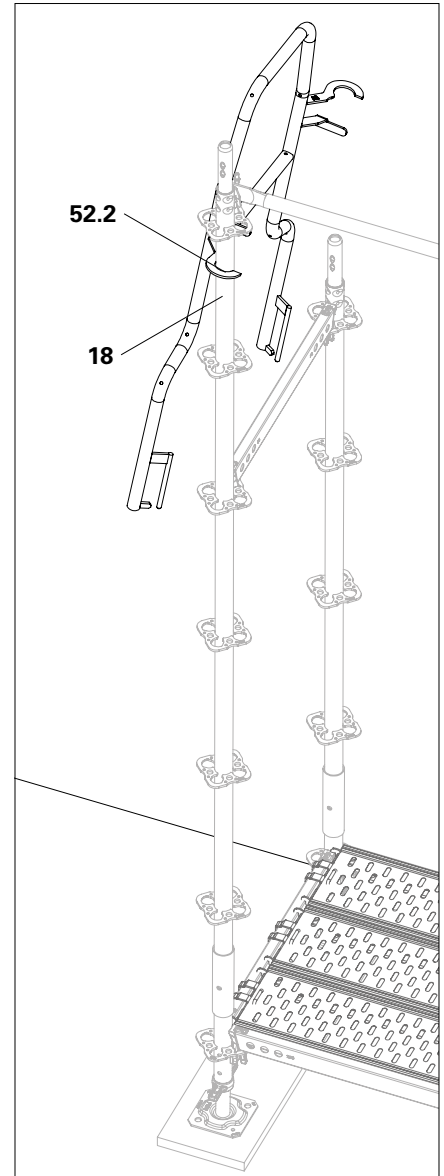

Fig. A3.10b
2. Swing the end guardrail in advance to the left so that the fork (**52.2**) engages around the outer standard (**18**). (Fig. A3.10b)